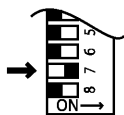

Fig. 3
9. Set the Infinity to 'Forced Low' combustion by setting No.7 dip switch of the (SW1) set of dip switches to 'ON'.(Fig.3).